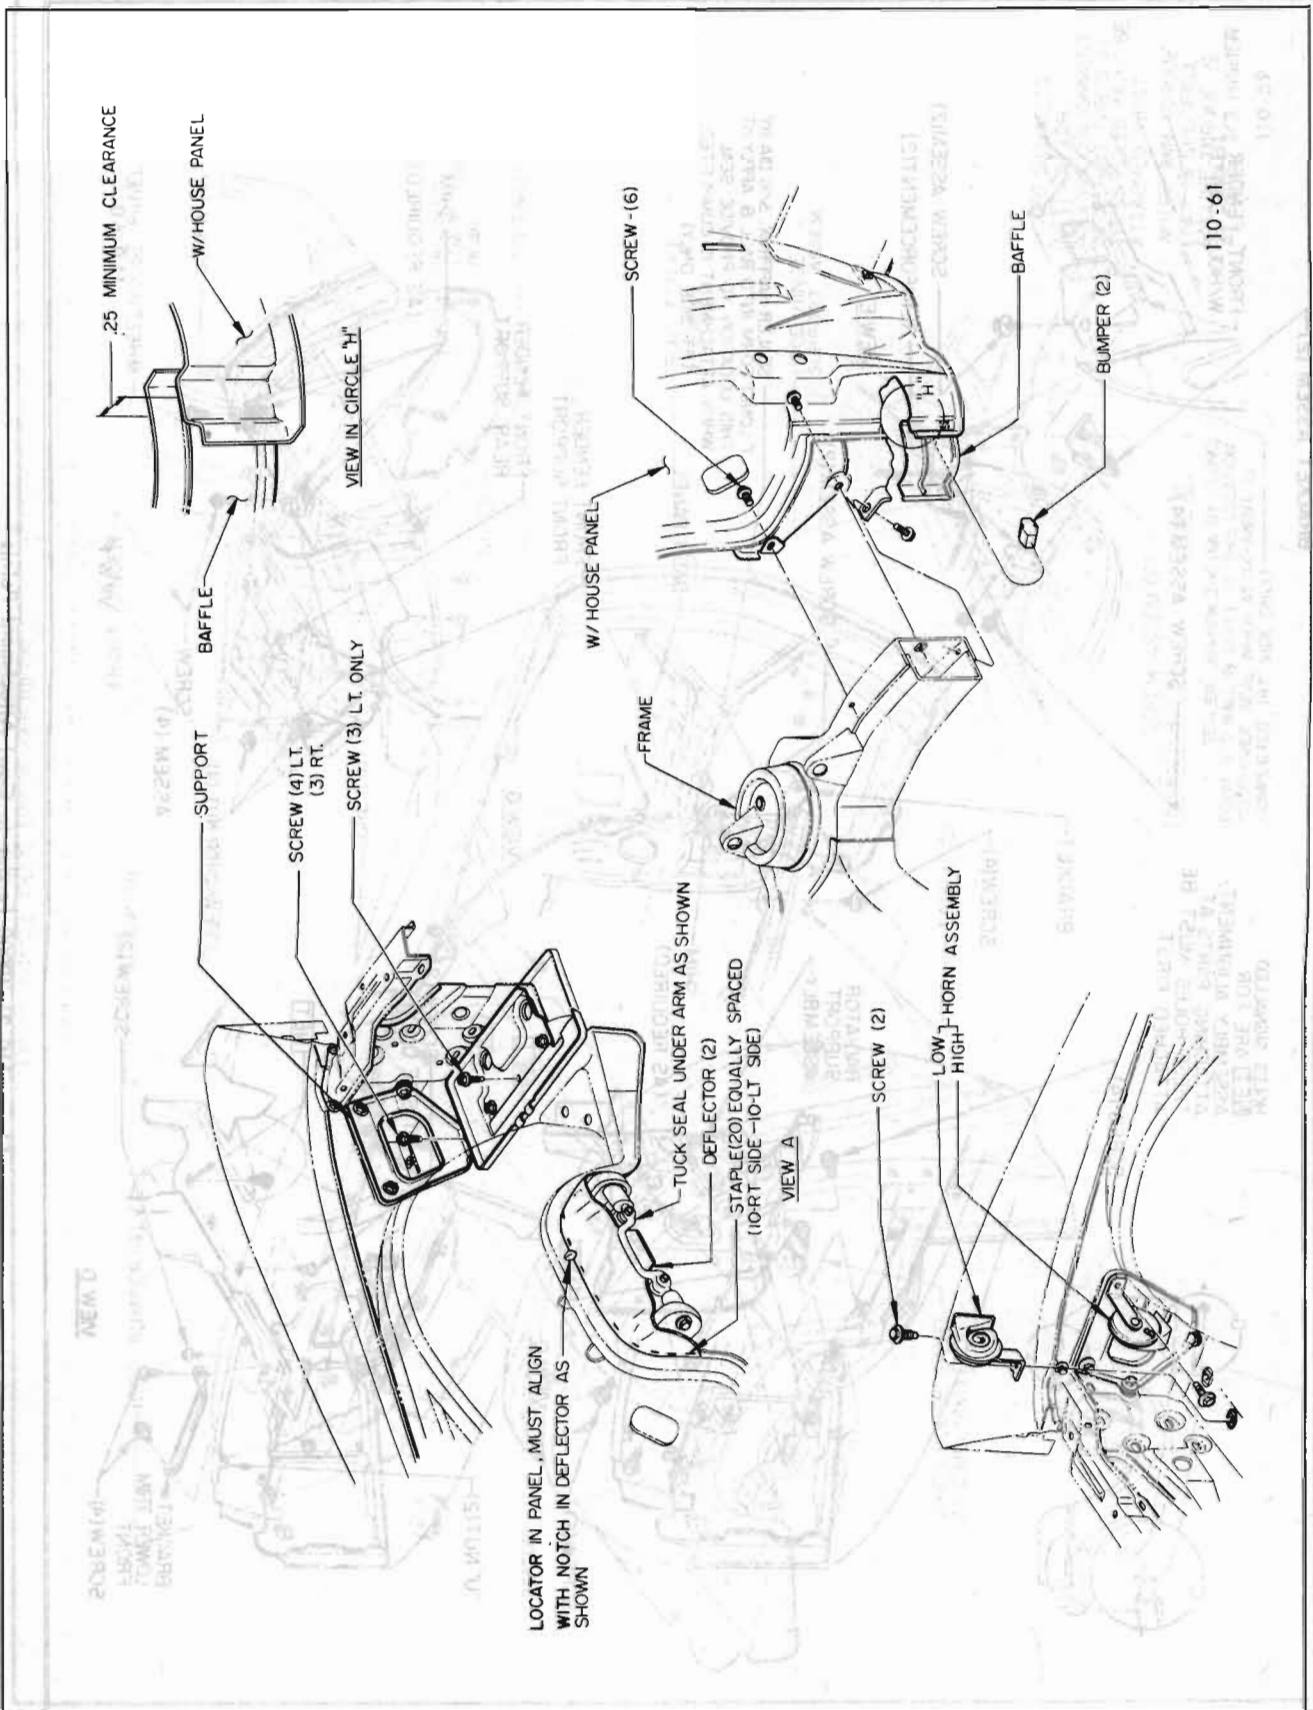

Figure 110-32 49000 Fender Baffles, Battery Base
and fender skirt. Lift out battery base. See Figure 110-32 (View A).
11. Remove three screws securing fender lower front baffle to frame. See Figure 110-32.